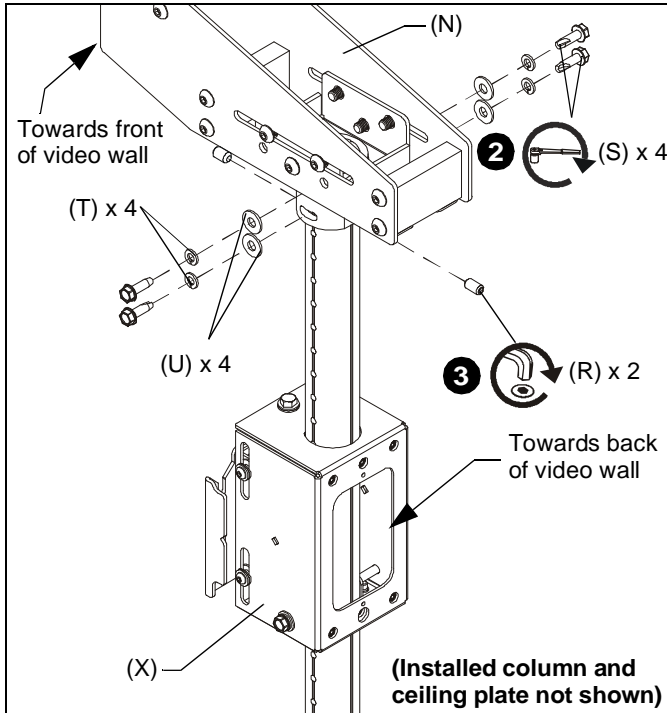

Figure 9
1. Arrange column assembly so that the open side of the array head (X) is facing the back of the video wall. (See Figure 9)
2. Loosely fasten column assembly to array offset (N) using four 5/16" x 1" hex head self-tapping screws (S), four 5/16" split washers (T), and four 5/16" washers (U). (See Figure 9)